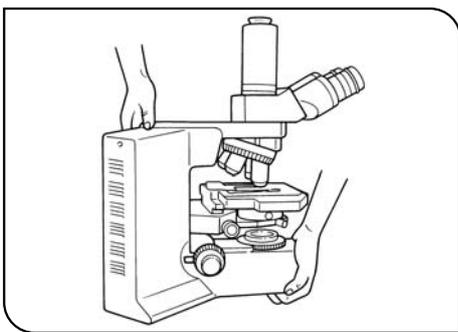

Fig. 2
3. When moving the microscope, remove the specimen and modules that may drop during transport and carefully carry it with the grasping part on the rear of the arm and the base as shown in Fig. 2 (Weight: approx. 16 kg).